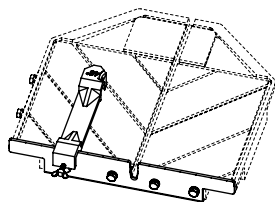

figure 6
2. After the rip guide is positioned for the desired cut, place material flat against the rip guide and the ruler guide. *(see figure 6)*